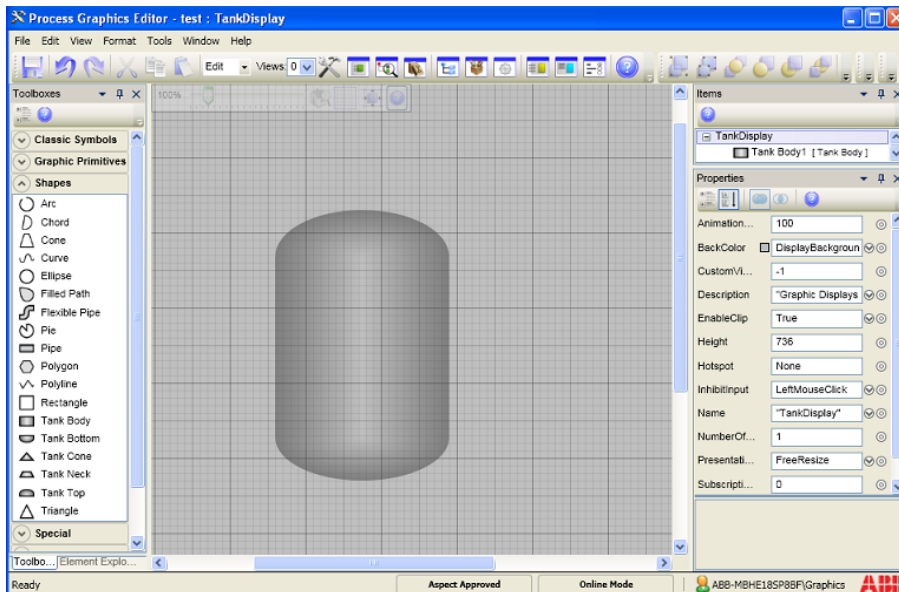

Figure 146. Graphic Display to Create a Solution Library
3. Move and resize the primitives as shown in Figure 146.